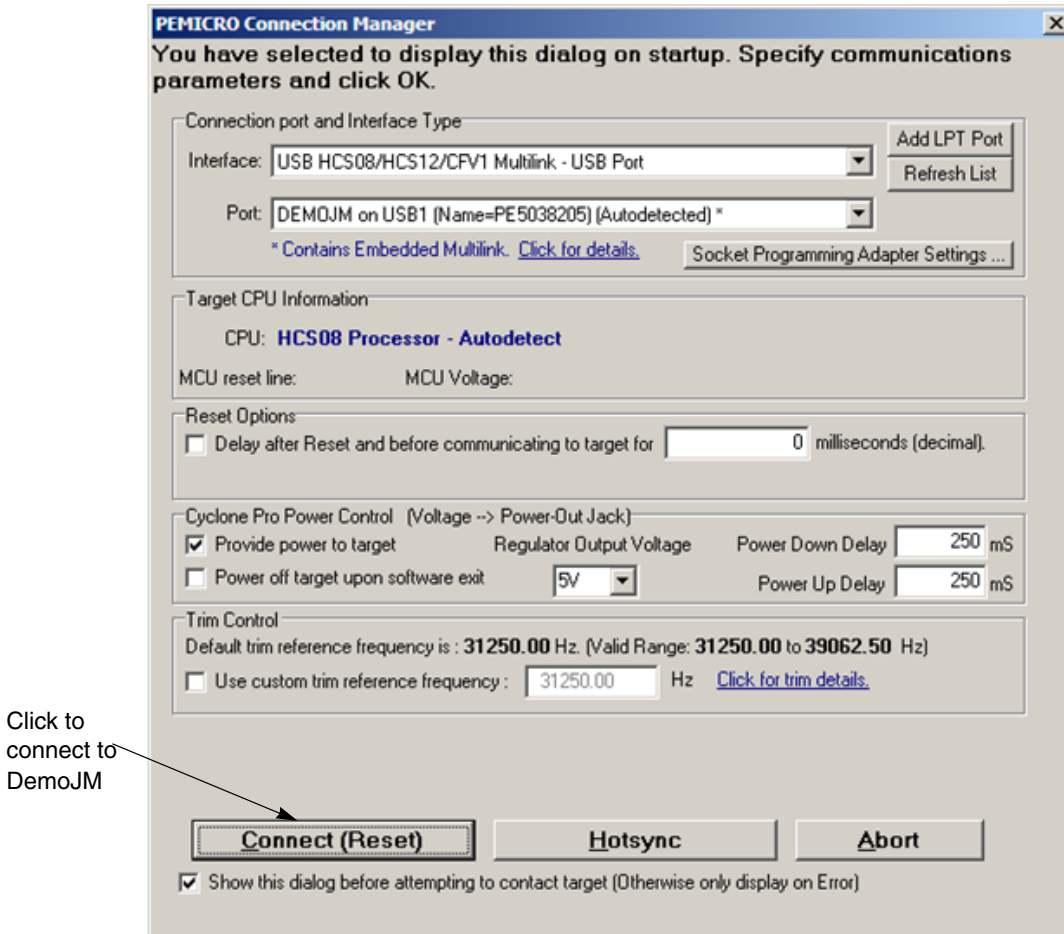

Figure A-11. Connection Manager
2. The dialog box in Figure A-11 appears. Click on the **Connect (Reset)** button to connect to hardware as shown in Figure A-11.